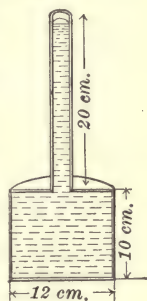

FIG. 57. — Box and tube full of water.
7. Figure 57 is a cylindrical tank 10×12 centimeters; out of the top rises a tube 20 centimeters long. The box and tube are filled with water.